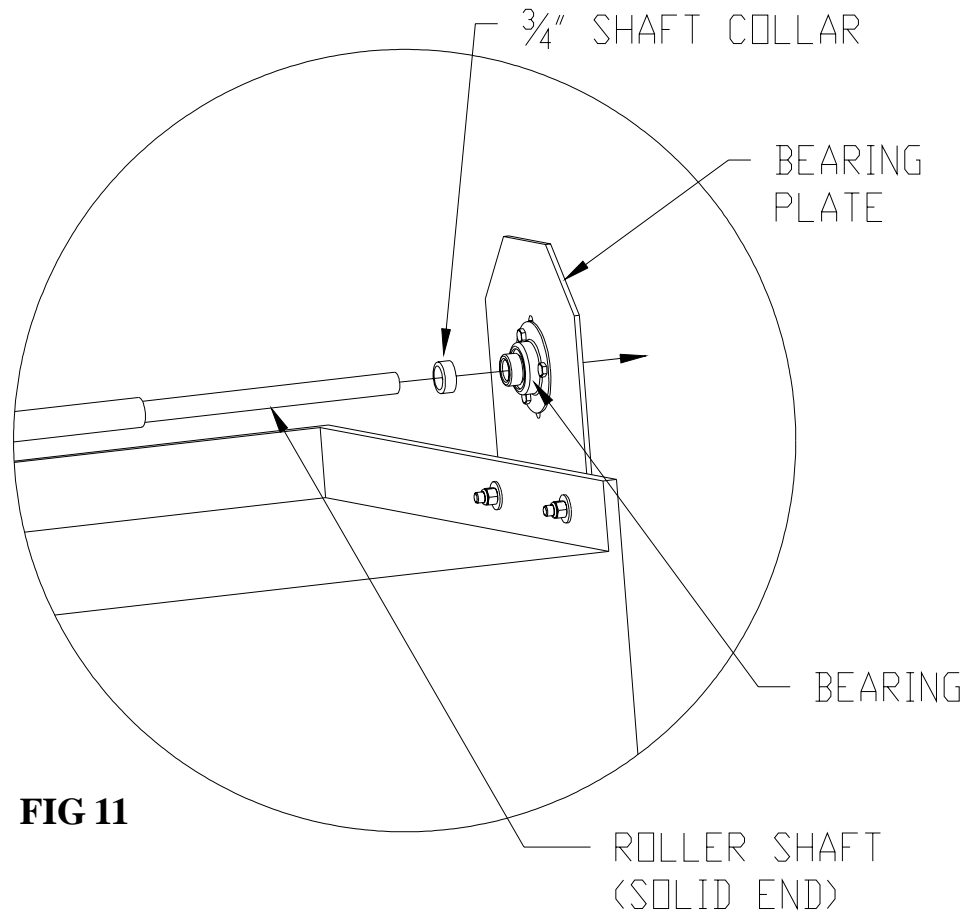

FIG 11
3. Slide a 3/4" shaft collar onto the solid end of roller shaft (see Fig. 11).
4. Slide the solid end of roller bar thru bearing and bearing plate (opposite side of where crank will be installed). See Figure 11 below.
4. Weld or bolt the pivot mounts to the box using the included 1/2" carriage bolts, flat washers, and lock nuts (the head of the bolt must be on the outside, and the washer and nut on the inside). (See fig. 11) **Note: The pivot mounts are directional** (see **Figure 14** for drivers side spring assembly). **CAUTION: Failure to comply with the above instructions could cause severe damage to the system.**
2. Slide the upper pivot arms into the lower arms. Adjust the arm length until the upper arm rests on the desired landing point at the back of the box (see Fig. 11, page 11).